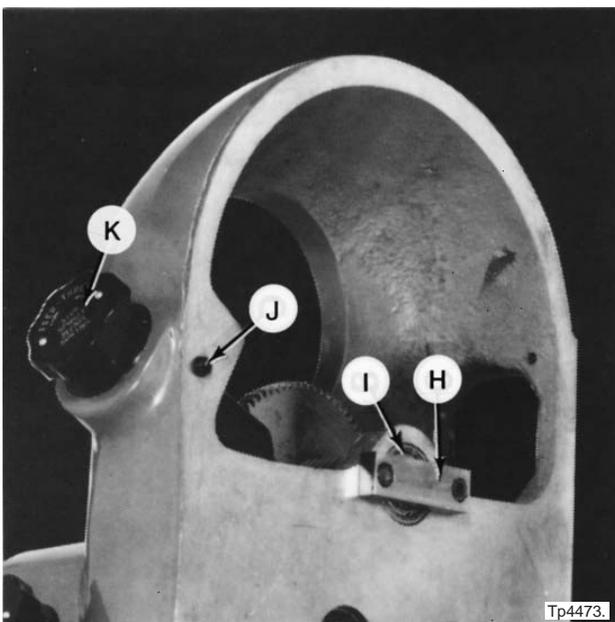

Figure 4.17 - Idler Shaft Rear Bearing
5. Remove stop block "H", Figure 4.17, and remove bearing "I".